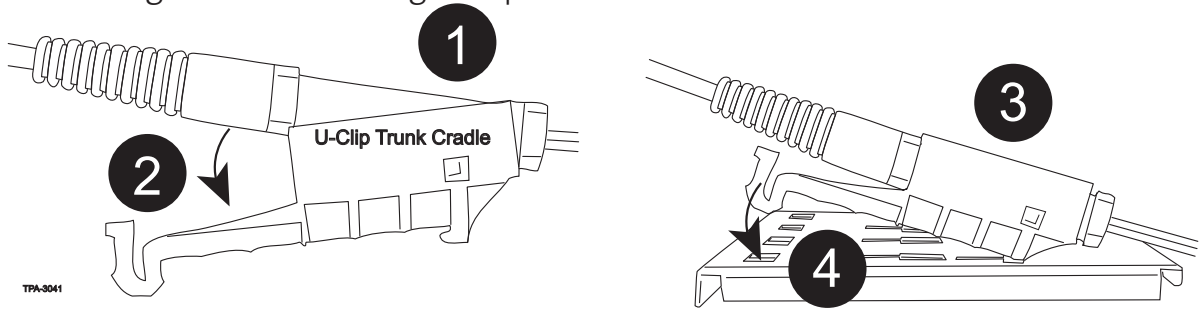

Figure 14 — Install Trunk Cable with U-Clip Cradle
- Step 1:** Insert the leg side of the trunk furcation into the U-clip cradle (Figure 14).
- Step 3:** Insert the trunk cradle into the rectangular cutout in the housing plate as shown in Figure 14.
- Step 3:** Insert cradle feet into backplate as shown in Figure 13 or Figure 14 for your cradle type.